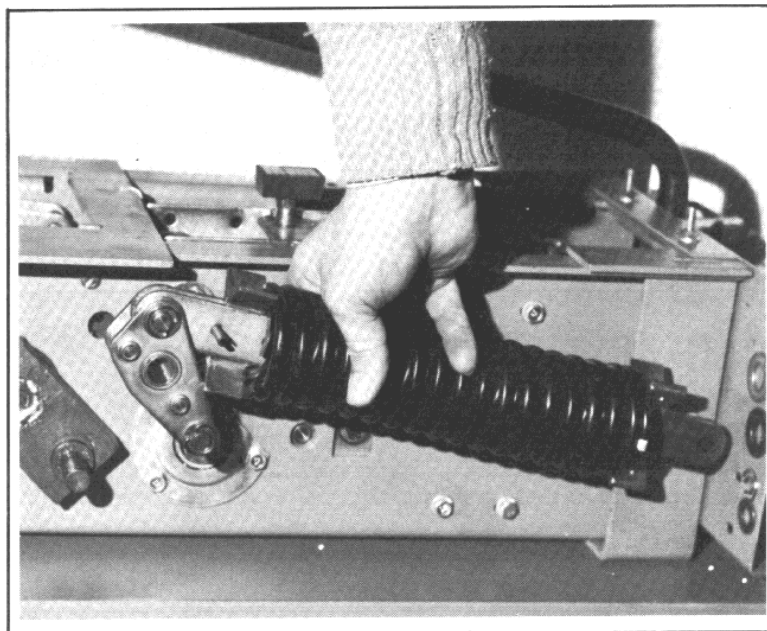

Figure 15
2. Re-install both the top and bottom springs, recoupling them as shown in (Figure 15).